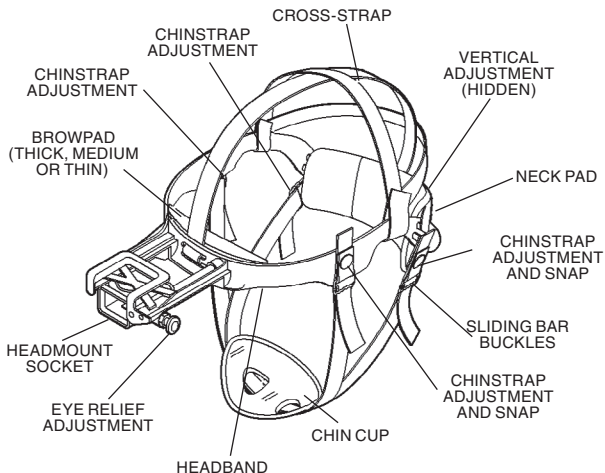

FIGURE 2.2. ODIN HEADMOUNT ADJUSTMENTS
- (2) Snap the front and rear snaps (Figure 2.2.) in place.
If the headmount is too loose, remove the attached thin brow-pad (Figure 2.2.) and replace with either the medium or thick browpad stored in the carrying case. Refer to paragraph for removal and replacement of the browpads.
- (3) With both hands grasp the neck pad (Figure 2.2.) and pull the harness over your head and the neck pad down to the back of your neck.
- (4) Holding the chin cup in position on chin, adjust both sides of the chinstrap until you feel light pressure against your chin. (DO NOT TIGHTEN.)
- (5) Maintain the position of the chin cup and remove any slack from the chinstrap. (DO NOT TIGHTEN.)
It may be necessary to remove the browpad (Figure 2.2.) when wearing the headmount over a protective mask.